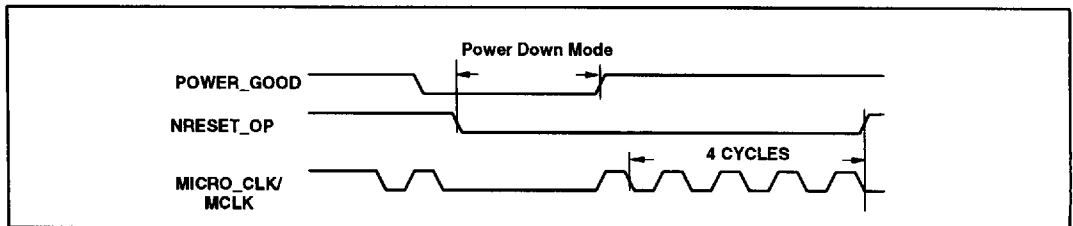

Fig. 9 : POWER\_GOOD Hardware Reset Generation (NARMSYS = '0', NBRAM = '0')
**POWER\_GOOD:** A hardware reset will occur if this pin is taken Low, as shown in Fig. 9. The purpose of this input is to detect a power failure. If the NBRAM pin is held Low in ARM System mode, the internal Power Down mode is not entered until about 6ns after the falling edge of MICRO\_CLK, otherwise it is entered immediately. This allows for RAM write cycles to complete sensibly when Battery Backed-Up RAM is used, with no corruption of RAM data.